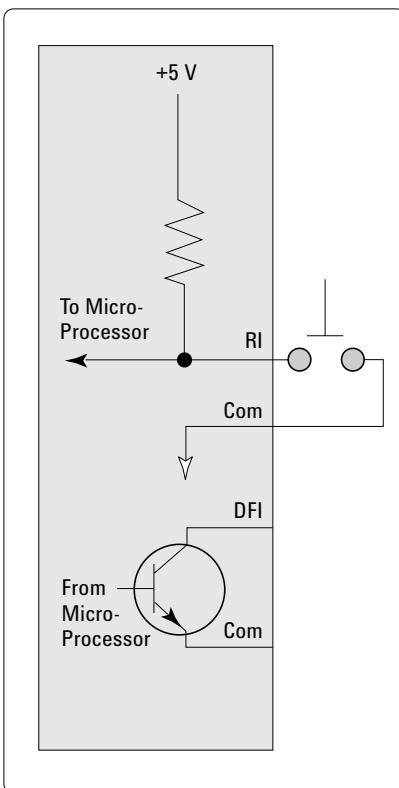

Figure 4. Schematic of remote inhibit (RI) and discrete fault indicator (DFI) functions
Remote disable offers a simple way to shut down a power supply to respond to a hazardous operating condition or to protect system operators. Remote inhibit (RI) is an input to a power supply that disables the output when the RI terminal is pulled low. Shorting the normally open switch turns off the supply's output (**figure 4**). Also shown is the discrete fault indicator (DFI) that can be used to signal an operator or other system components whenever the power supply detects a user-defined fault.